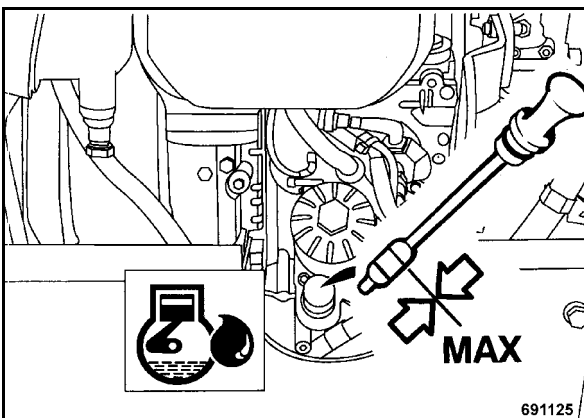

Fig. 63
- Check the oil level on the dipstick (Fig. 63), correct if necessary.